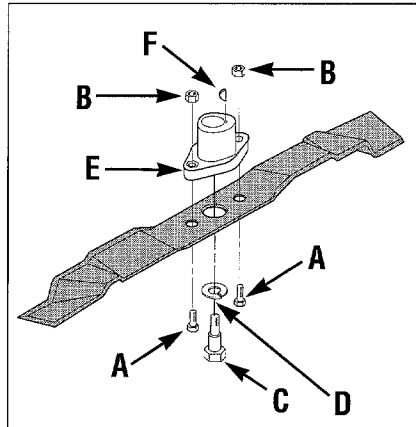

Figure 5-16: Remove/Install blade (except Models 34311 & 34328).
A. Remove the two hex head cap-screws (A, Figure 5-16), and locknuts (B).
B. Insert hex head capscrews (A, Figure 5-16) through small holes in blade. Loosely install toplock nuts (B).
C. Place lockwasher (D) on shoulder bolt (C). Apply a coating of removable thread-locking compound (such as LOCTITE® 242) to threads of bolt. Loosely install bolt in center hole as shown in Figure 5-16.
D. Alternately tighten the two capscrews (A) to a torque value of 20-25 ft-lbs.
E. Tighten shoulder bolt (C) to a torque value of 25-30 ft-lbs.